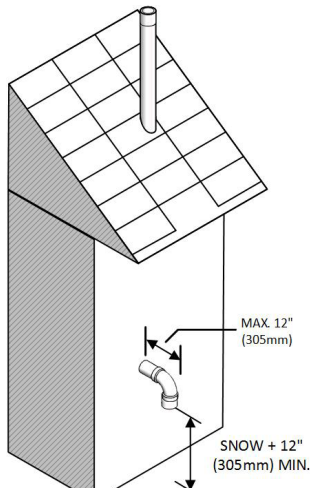

Figure 5a: Rooftop vent terminal configurations
- The air intake pipe may terminate on the side wall of the building as long as the air intake terminal is turned down and the side wall of the building is not exposed to large wind loads i.e., prevailing wind (see Figure 5a).